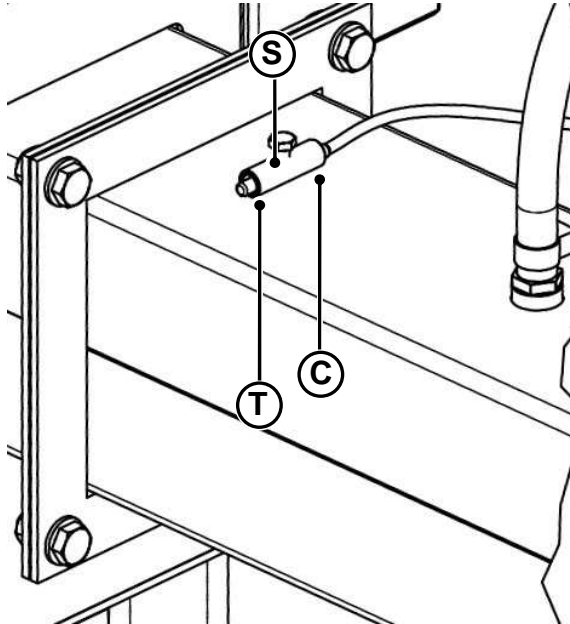

Fig. 2.10. FUEL FEEDER TEMPERATURE SENSOR INSTALLATION
The measuring sensor (C, Fig. 2.10) should be installed into the socket (T) and fastened with a screw (S). In order not to damage the metal casing of the sensor, tighten the screw with your hands or gently with a wrench. Connect the sensor to the relevant terminal in the cabinet.